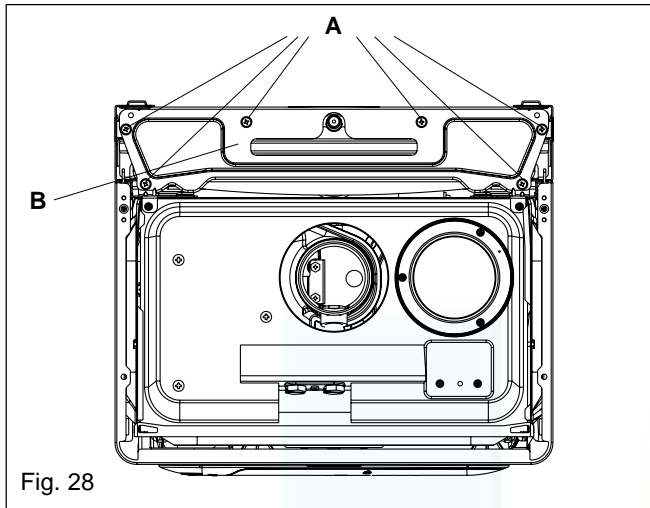

Fig. 28
Disconnect the flexible expansion pipe from the vessel. Locate and remove the four screws (A) that secure the vessel top holding plate (B), remove the plate (fig. 28). The expansion vessel
Locate and remove the 4-screws that secure the vessel (see fig. 28). The expansion vessel can now be removed. Replace in the reverse order. Take extreme care when refitting the wiring to the air chamber. Ensure all seals are in good condition, taking care to ensure they are replaced correctly.